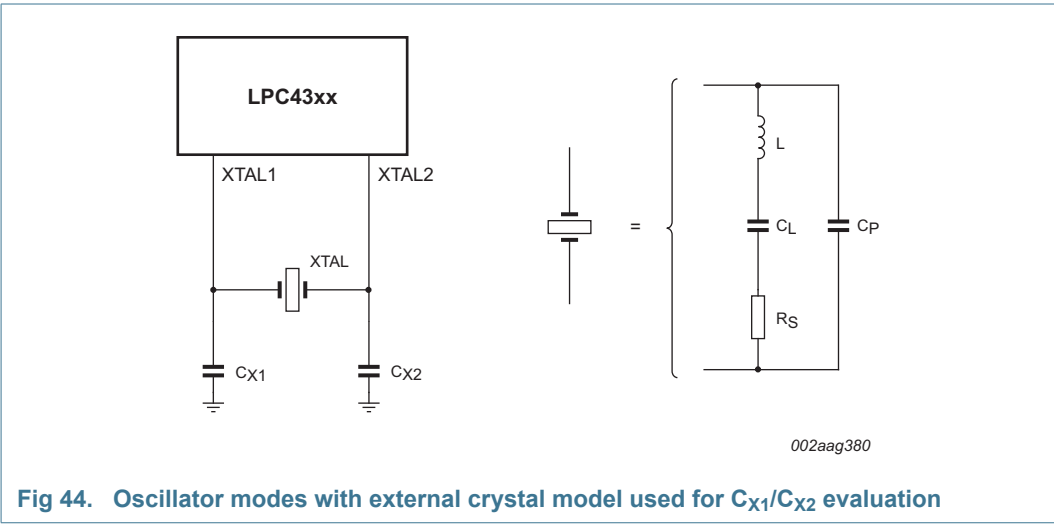

Fig 44. Oscillator modes with external crystal model used for C_{X1}/C_{X2} evaluation
- External components and models used in oscillation mode are shown in Figure 44, and in Table 43 and Table 44. Since the feedback resistance is integrated on chip, only a crystal and the capacitances C_{X1} and C_{X2} need to be connected externally in case of fundamental mode oscillation (L , CL and RS represent the fundamental frequency). Capacitance C_P in Figure 44 represents the parallel package capacitance and must not be larger than 7 pF. Parameters FC , CL , RS and CP are supplied by the crystal manufacturer.